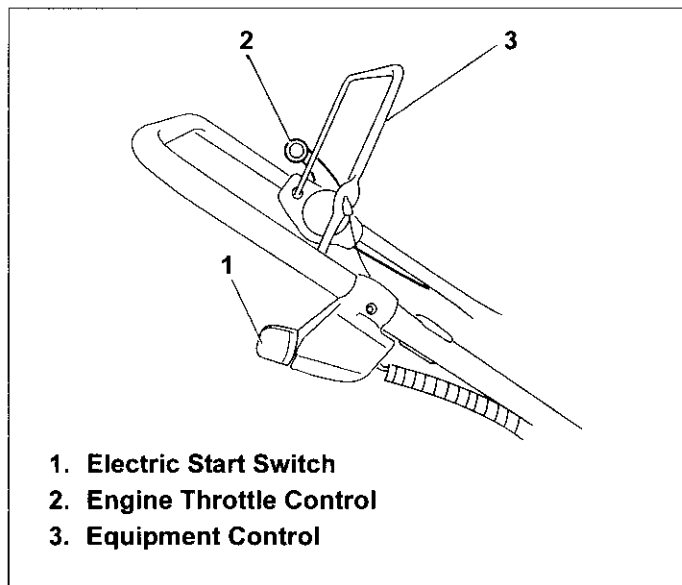

Figure 12. Typical Engine Control
2. Move Engine Throttle Control to "FAST" position if present (see equipment manufacturer's instructions). See Figure 12 or 13.
4. Operate equipment control to release engine brake or clutch if present (see equipment manufacturer's instructions). See Figure 12.
3. Operate equipment control to release engine brake or clutch, if present (see equipment manufacturer's instructions). See Figure 12.